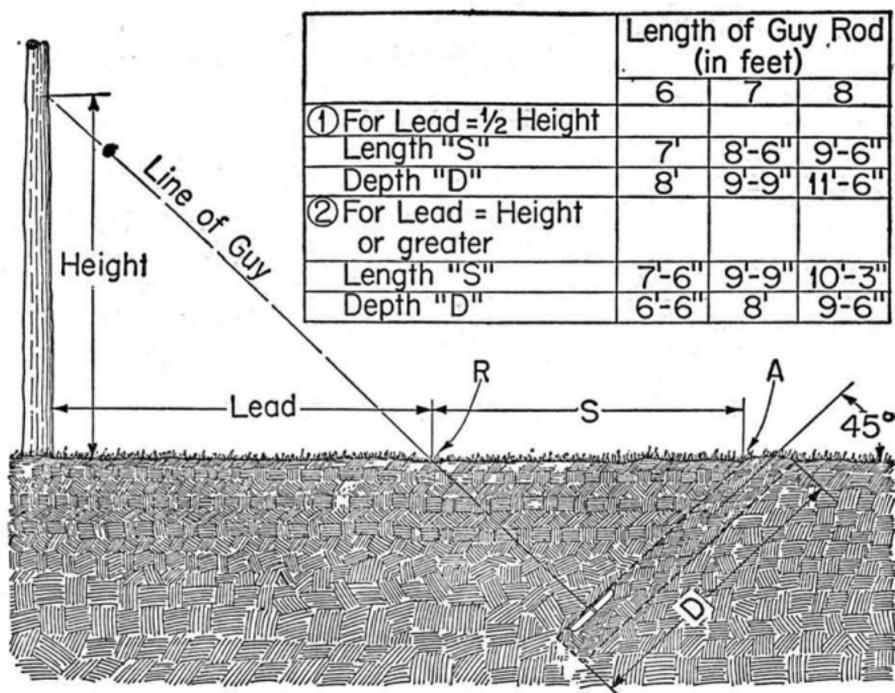

Fig. 2
3.03 As shown in Fig. 2, locate the point "R" at which to drive the guy rod. Measure from this point the distance "S", as shown in the table in Fig. 2, to locate point "A" at which the hole for the plate is to be bored. Point "A" should be in line with the pole and point "R".